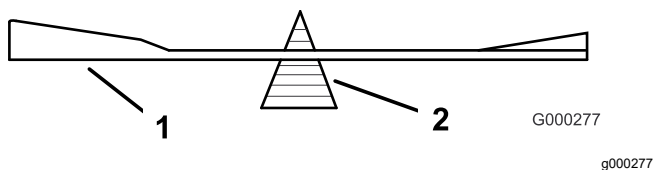

Figure 27
2. Check the balance of the blade by putting it on a blade balancer (Figure 27).